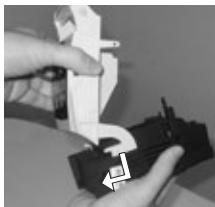

Figure 4
- Insert the cover into the disconnector base and then move the cover along the disconnector base up to firm resistance (Figure 4).